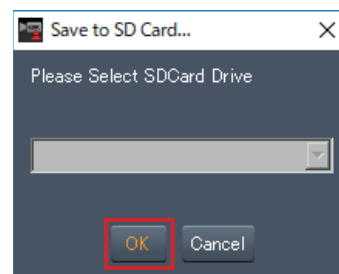

Fig. 2
- 4 Select the USB memory device to save to and click [OK]. (Fig.2)